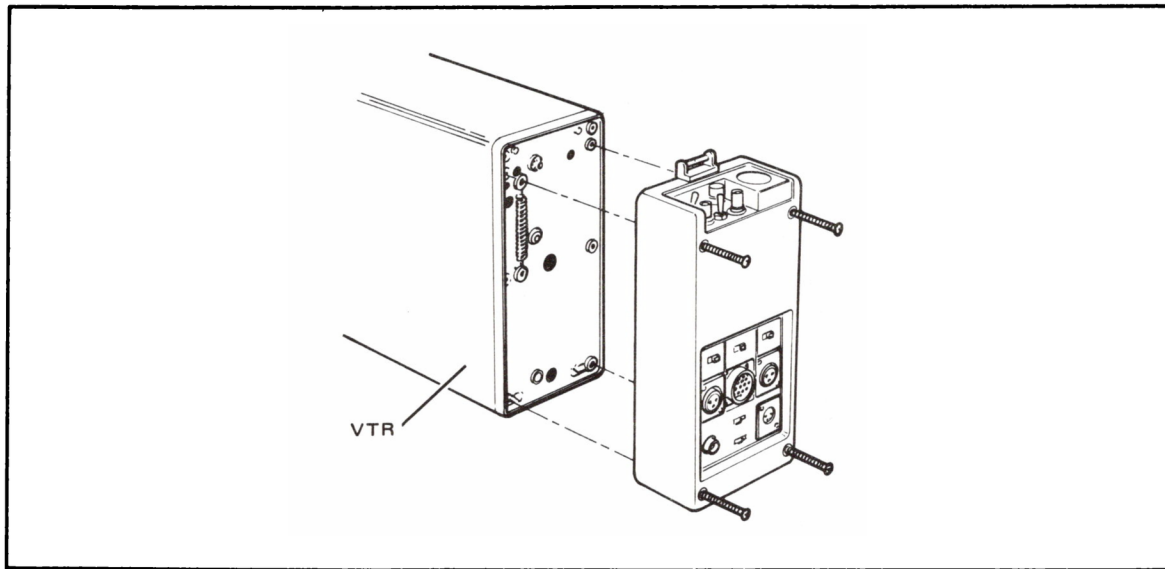

Figure 2-7. Attaching Video Adapter to VTR
STEP 1 Fasten the FPR-10 VTR to the NTSC video adapter using the four accessory screws. See Figure 2-7.